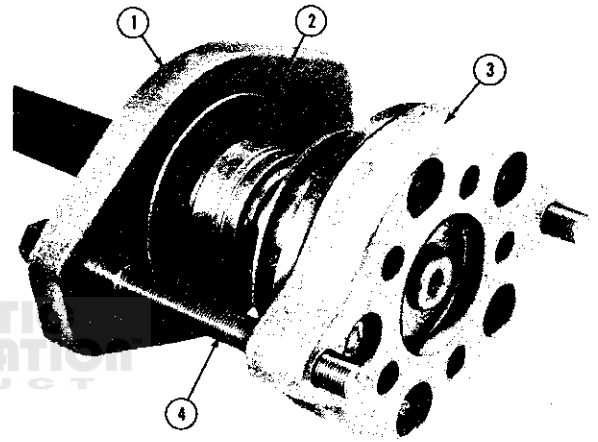

FIG. N-15—INSTALLING AXLE SHAFT BEARING
- g. Using puller tool W-343, press the new axle shaft bearing and retainer ring on the axle shaft simultaneously. Tighten puller bolts alternately until the bearing and retainer ring are properly seated against the shaft shoulder. Refer to Fig. N-15 and N-16.